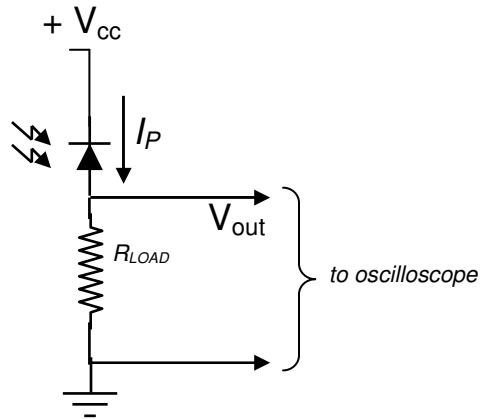

Figure 10.11: Photodiode in reverse-bias configuration with resistive load.
The PN junction capacitance of the photodiode can be reduced significantly by using a reverse-bias voltage on the photodiode, as shown in the circuit diagram on the right (figure 10.11). Since the capacitance drops, so does the time response (still $\tau = RC$) of the photodiode. In practice, the fastest photodiode have very small detection areas and are
3. In the same manner as part 2, construct the circuit of figure 10.11 such that the current-to-voltage conversion is 10 mV/ μ A and the bias voltage is + 15 V. Measure the rise time and fall time of the photo-current signal. Estimate the capacitance of the photodiode. Repeat for the bias voltage values equal to (+2 V, +5 V, +8 V, +11 V).